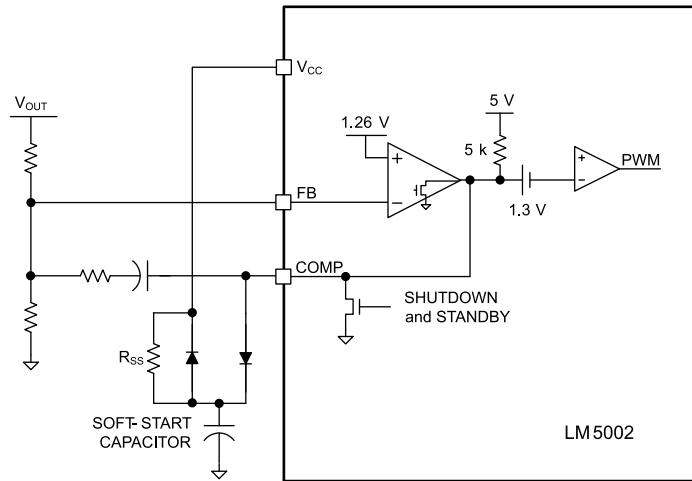

图 8-4. Soft-Start Circuit
Internal thermal shutdown circuitry is provided to protect the IC in the event the maximum junction temperature is exceeded. When the 165°C junction temperature threshold is reached, the regulator is forced into a low power standby state, disabling all functions except the VCC regulator. Thermal hysteresis allows the IC to cool down before it is re-enabled. Note that because the VCC regulator remains functional during this period, the soft-start circuit shown in 図 8-4 must be augmented if soft start from thermal shutdown state is required.
Soft start (SS) can be implemented with an external capacitor connected to COMP through a diode as shown in 图 8-4. The COMP discharge MOSFET conducts during Shutdown and Standby modes to keep the COMP voltage below the PWM offset (1.3 V), which inhibits PWM pulses. The error amplifier attempts to raise the COMP voltage after the EN pin exceeds the 1.26 V standby threshold. Because the error amplifier output can only sink current, the internal COMP pullup resistor (approximately $5\text{ k}\Omega$) supplies the charging current to the SS capacitor. The SS capacitor causes the COMP voltage to gradually increase until the output voltage achieves regulation and FB assumes control of the COMP and the PWM duty cycle. The SS capacitor continues charging through a large resistance, R_{SS} , preventing the SS circuit from interfering with the normal error amplifier function. During shutdown, the VCC diode discharges the SS capacitor.